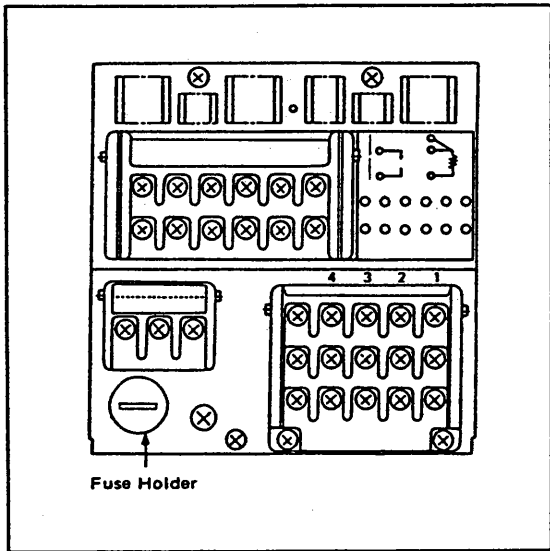
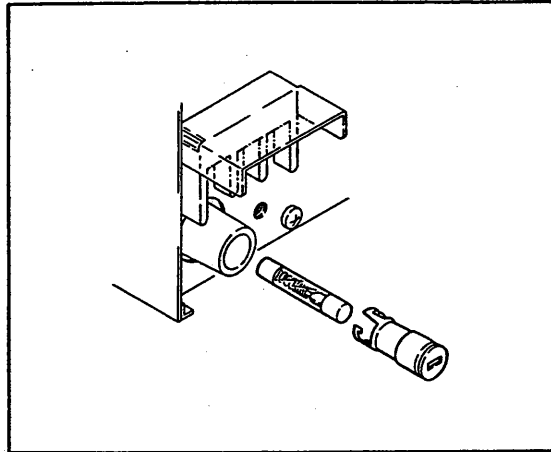

Figure 6-4.
Figure 6-5.
- (2) The fuse is mounted on the recorder rear panel (see Figure 6-4). Turn the knob of the fuse holder counterclockwise, and the holder will slide out with the fuse (see Figure 6-5).
- (3) Make sure that the new fuse rating is correct, and mount the fuse by turning the knob clockwise (see Figure 6-5).